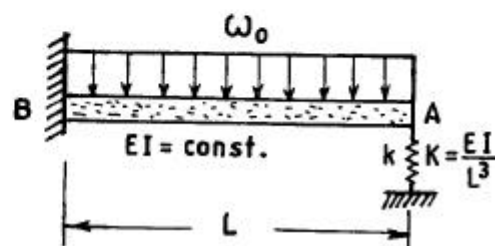

fig. 4
8. A uniform cantilever beam is propped by a spring at the free end as shown in Fig. 4. The beam is subjected to a uniformly distributed load over the entire length. Using the strain energy method, determine the force in the spring.